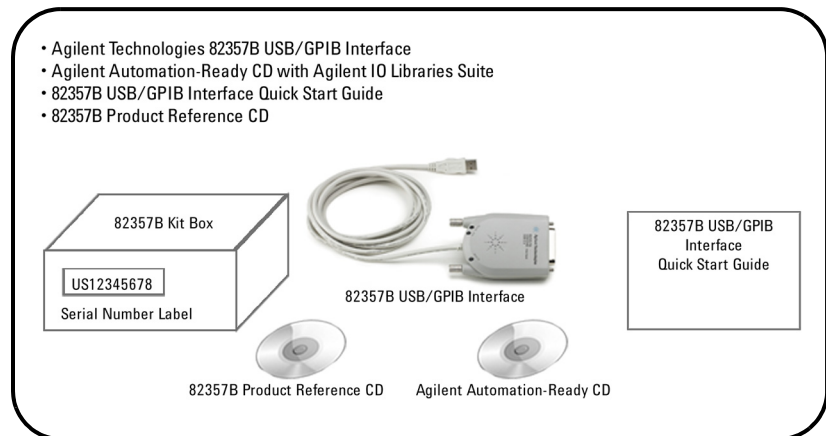

Figure 1-2 Contents of Agilent 82357B USB/GPIB Interface
- Figure 1-2, "Contents of Agilent 82357B USB/GPIB Interface" 7
Your 82357B USB/GPIB Interface shipment should include items in Figure 1-2. If any item is missing or damaged, keep the shipping materials and contact Agilent Technologies. See *“Contacting Agilent”* on page 55 later in this guide for addresses and telephone numbers.